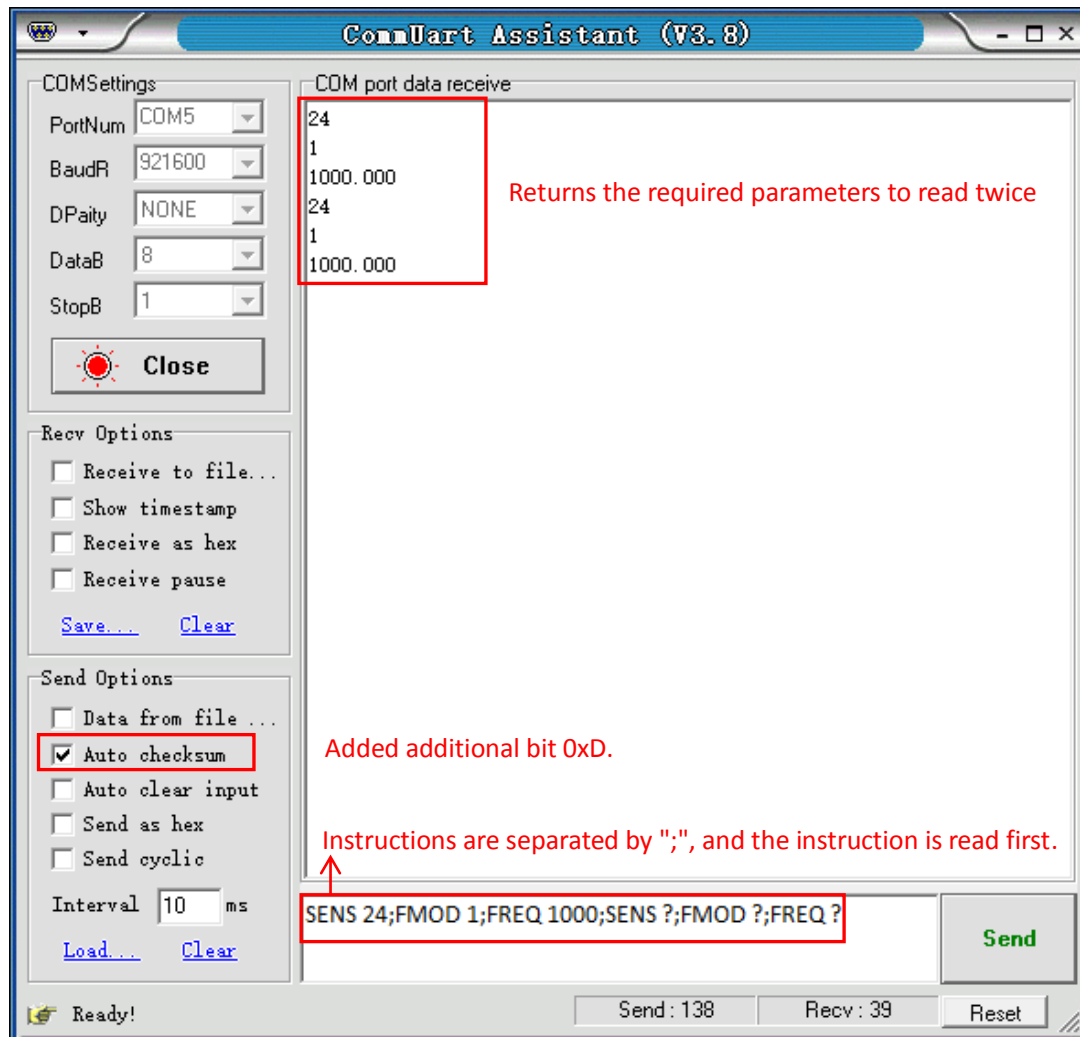

Fig.112 The execution of multiple commands
3) Multiple commands are separated by “;”, such as “SENS 24;FMOD 1;FREQ 1000;SENS ?;FMOD ?;FREQ ?”, as is shown in Fig.112.